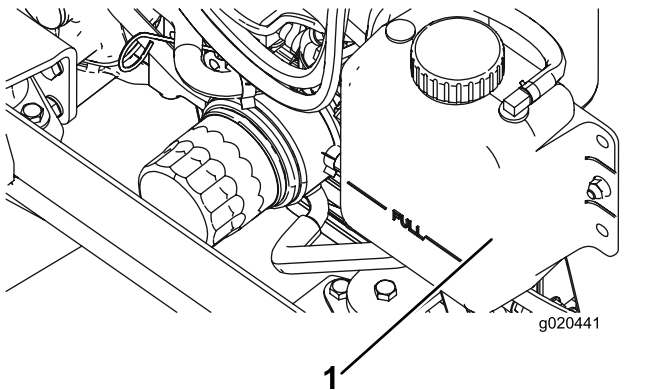

Figure 76
1. Carefully remove the radiator cap and expansion-tank cap (Figure 76).